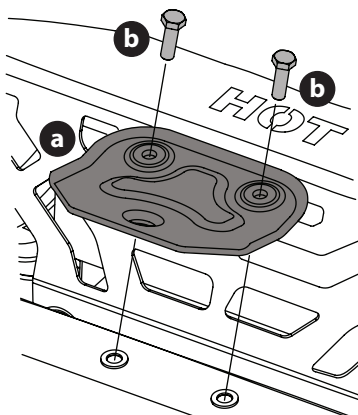

Fig. 2
1. Locate hitch (a) and install on the rear of the frame using the two hex washer screws (b) provided (Fig. 2).